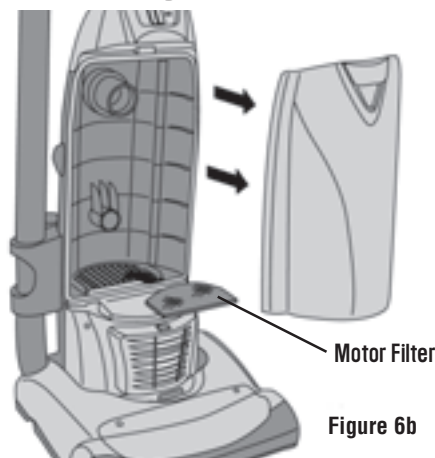

Figure 6b
2. The Motor Filter fits snugly into the Filter Housing. Gently pull the Filter out from the 2 clips on the front and from the tabs on the sides of the Filter Housing. (See Figure 6b.)